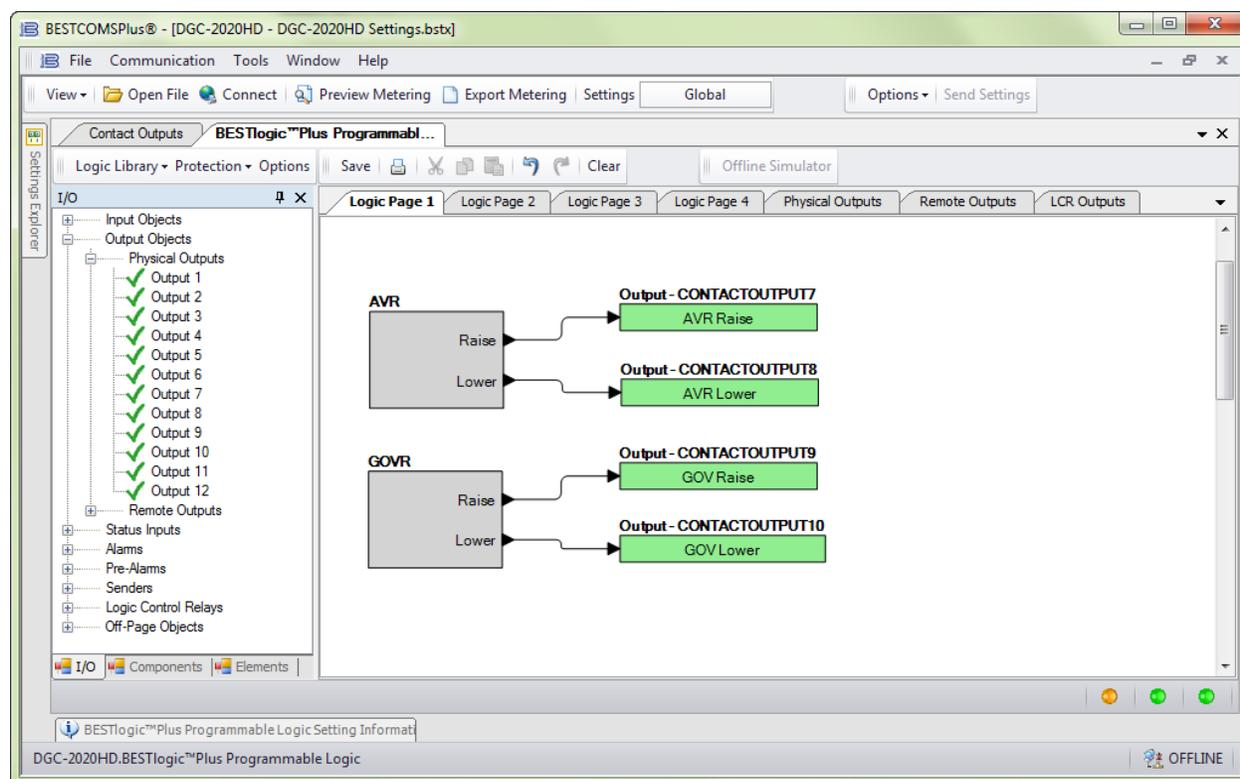

Figure 14-19. Contact Output Bias Control Setup, Step 4.
- Click on the I/O tab and drag the outputs assigned in step 1 into the main logic screen and connect them to the appropriate outputs of the AVR and GOVR blocks. See Figure 14-19.